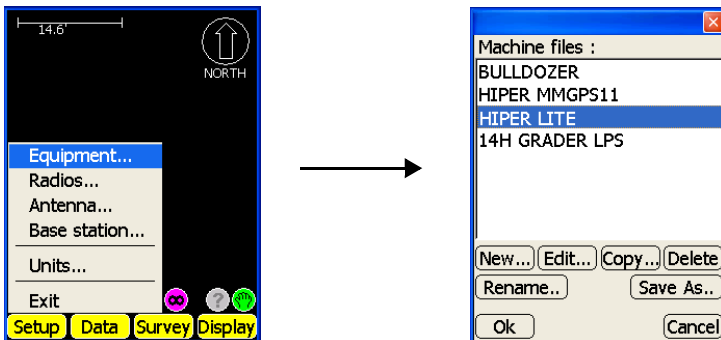

Figure 4-17. Select Machine Configuration File
3. Press **Setup ▶ Equipment** to open the *Equipment configuration* dialog box and select the correct equipment configuration file, then press **Ok** (Figure 4-17).